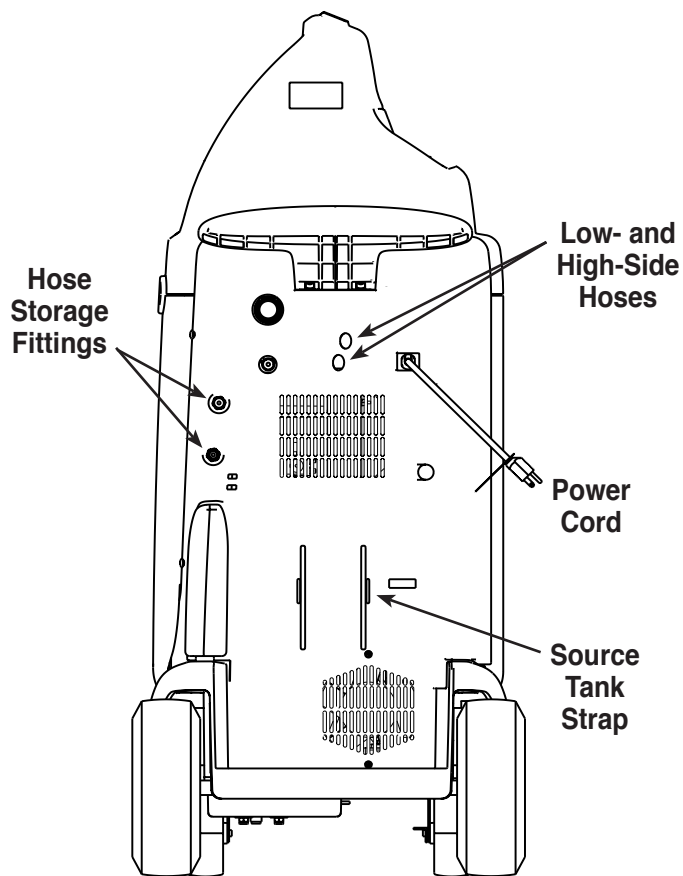

Figure 3
2. After the vacuum pump shuts off, attach the low-side tank adapter to the liquid valve on the tank. Attach the low-side service hose to this adapter. See Figure 3.